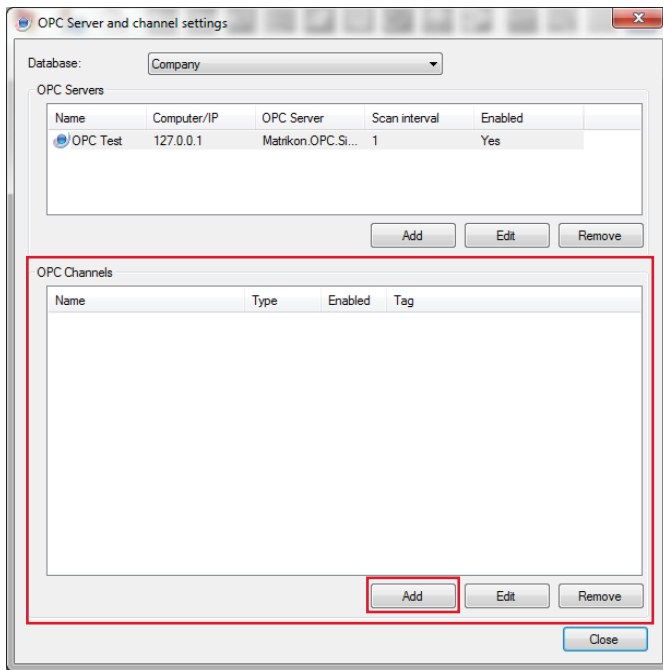

Fig. 5. Click Add from the "OPC Channels" section.
- From the **OPC Server and channel settings** window (→ **fig. 5**), click **Add** from the "OPC Channels" section.